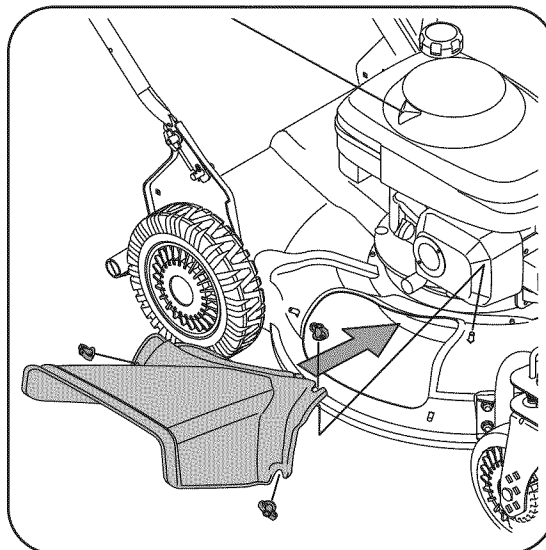

Figure 6
- b. Attach side discharge chute to unit and secure with the three wing nuts. See Figure 6.